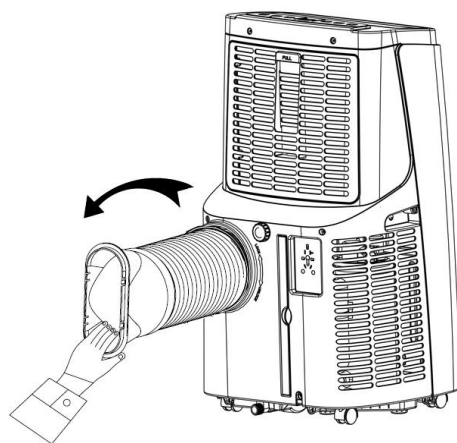

Figure 1
#### 1.1 Install the heat pipe assembly (as shown in Fig.1)
- 2) insert the heat pipe assembly (the end of the exhaust joint) into the back panel vent slot (push to the left) and complete the assembly (as shown in figure 1).